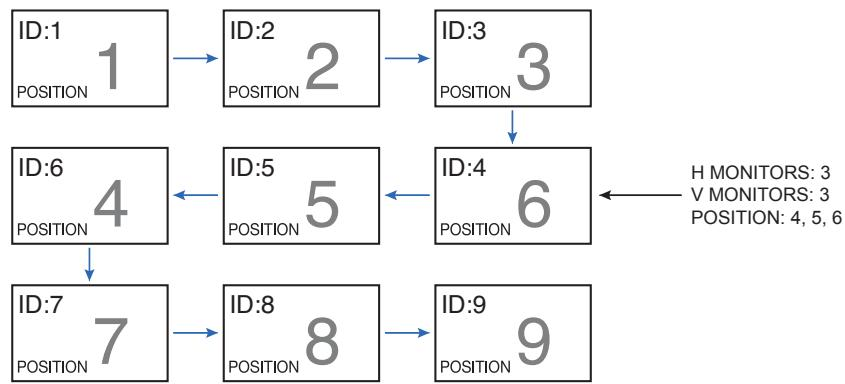

Figure 1
The Remote control unit can be used to control up to 100 individual MultiSync monitors using what is called the REMOTE CONTROL ID mode. The REMOTE CONTROL ID mode works in conjunction with the Monitor ID, allowing control of up to 100 individual MultiSync monitors. For example, if there are many monitors being used in the same area, a Remote control unit in normal mode would send signals to every monitor at the same time (see **Figure 1**). Using the remote in REMOTE CONTROL ID mode will only operate one specific monitor within the group (see **Figure 2**).
**TIP:** [POSITION] needs to be changed manually. Please refer to the **figure 1**.
A portrait configuration is the same in Figure 1.